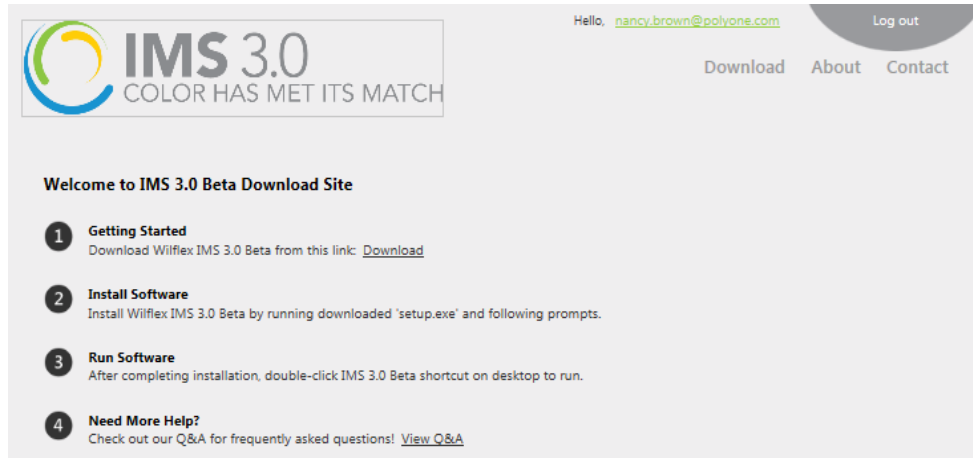

Figure 2 IMS Registration Landing Page
1. Location of download site (Figure 2)